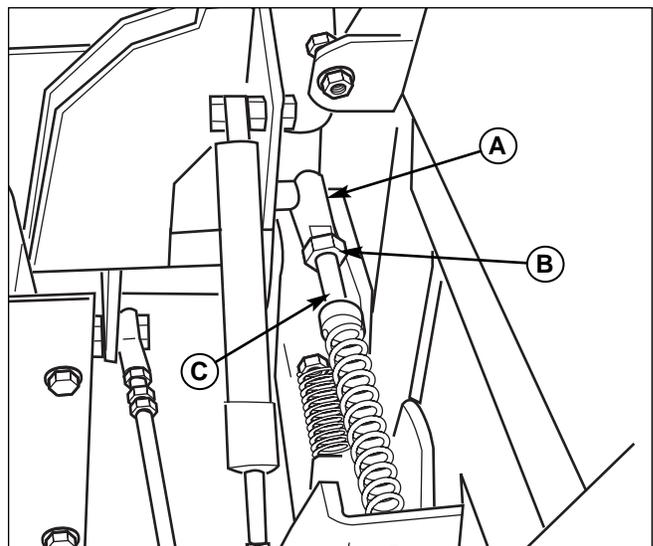

Figure 30. Neutral Return Adjustment
3. Move the ground speed control levers towards the neutral position. If the levers do not align with the notches in the neutral lock plate, it is necessary to adjust the neutral return rod (C, Figure 30).
1. Loosen the jam nut (B) locked against the ball joint (A).
2. Turn the neutral return rod (C) to adjust handle position (see Figure 30).